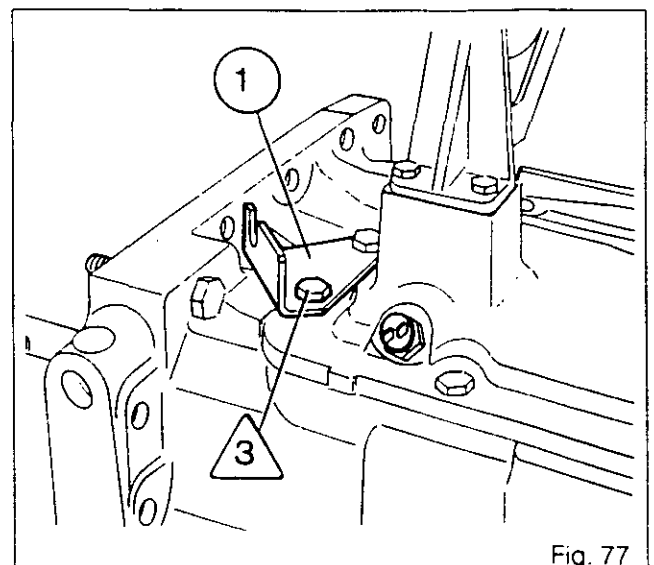

Fig. 77
**Note: For a gearbox fitted with creeper gears, fit the cable bracket (1) (Fig.77)**
**To correctly centre the cover, first tighten bolt /3\ (Fig.77). Carry out a manual check, using the levers, that the lugs have been correctly fitted into the selectors.**